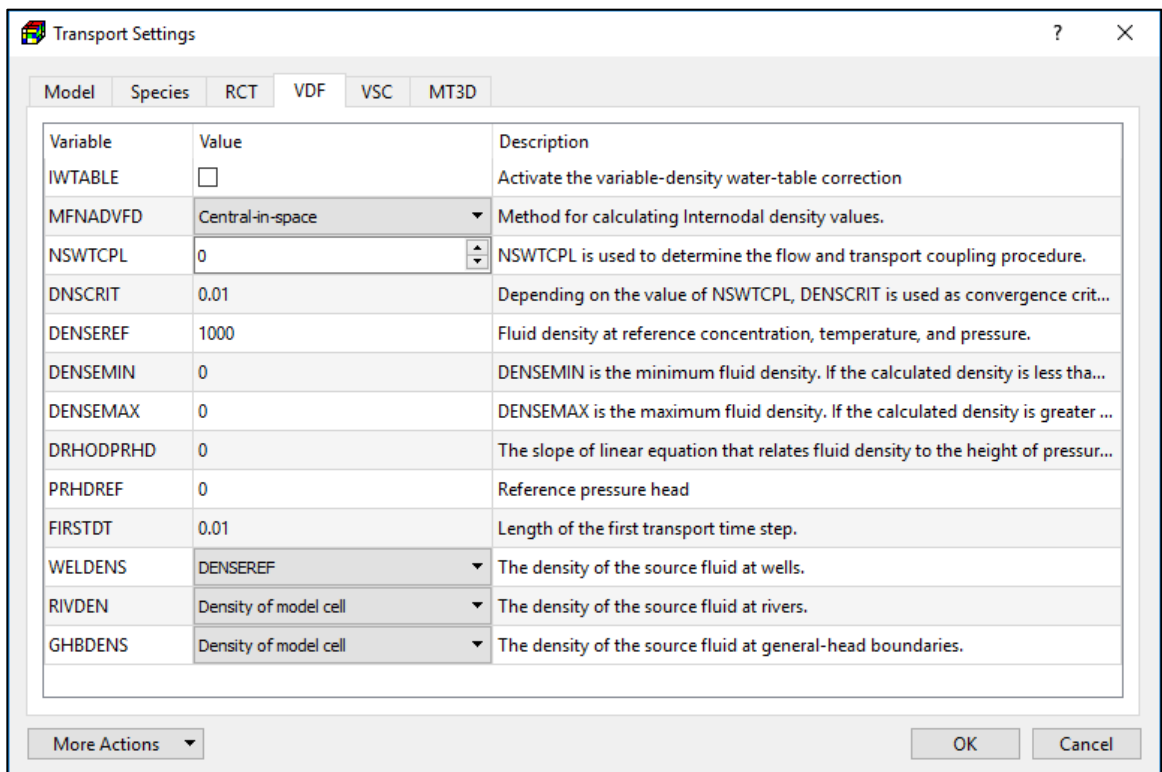

Figure 99. The VDF tab of the Transport Settings dialog box
- **Electron Donor (ED)** is the electron donor in the EA/ED reaction.
- **Electron Acceptor (EA)** is the electron acceptor in the EA/ED reaction.
- **Stoichiometric ratio (F):** F is used in the simulated equation as follows: $ED + F \times EA \rightarrow \text{Product}$.
5. **VDF Tab** (Figure 99) contains options for the Variable-Density Flow Process of SEAWAT.